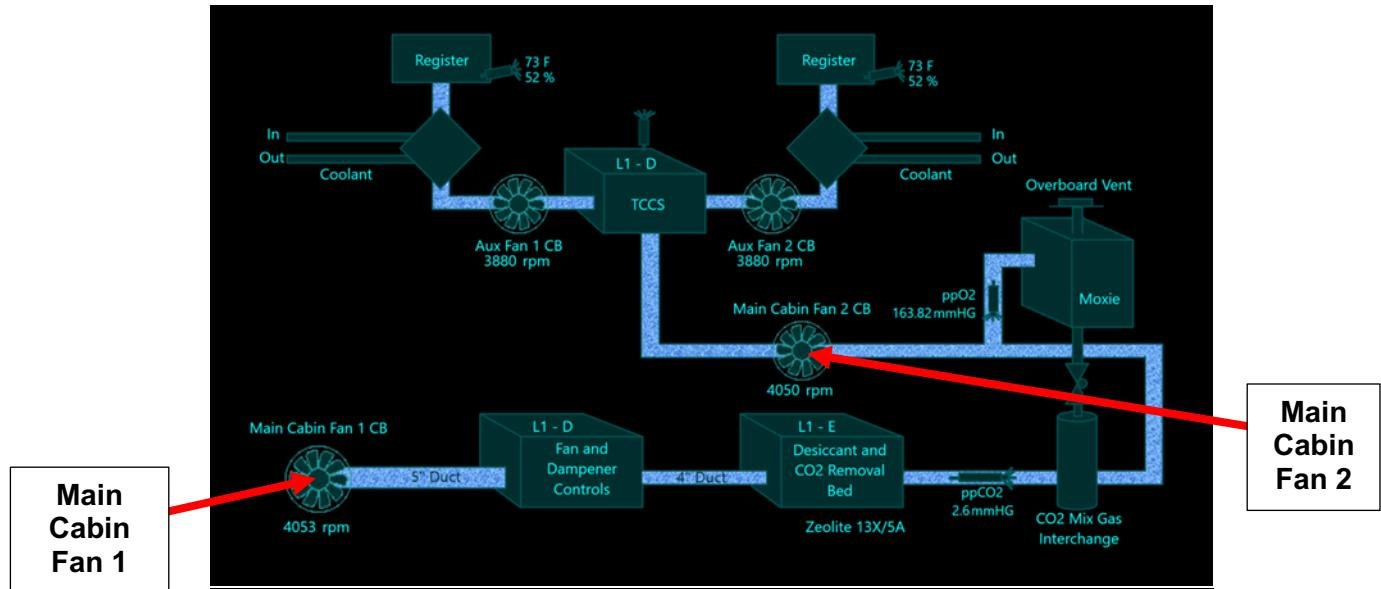

Figure 1: Main Cabin Fan Power Switches in HSS CDRA
1.2 On HSS CDRA display, touch Main Cabin Fan 1 icon to deactivate fan. (see Figure 1)
1.3 On HSS CDRA display, touch Main Cabin Fan 2 icon to deactivate fan. (see Figure 1)